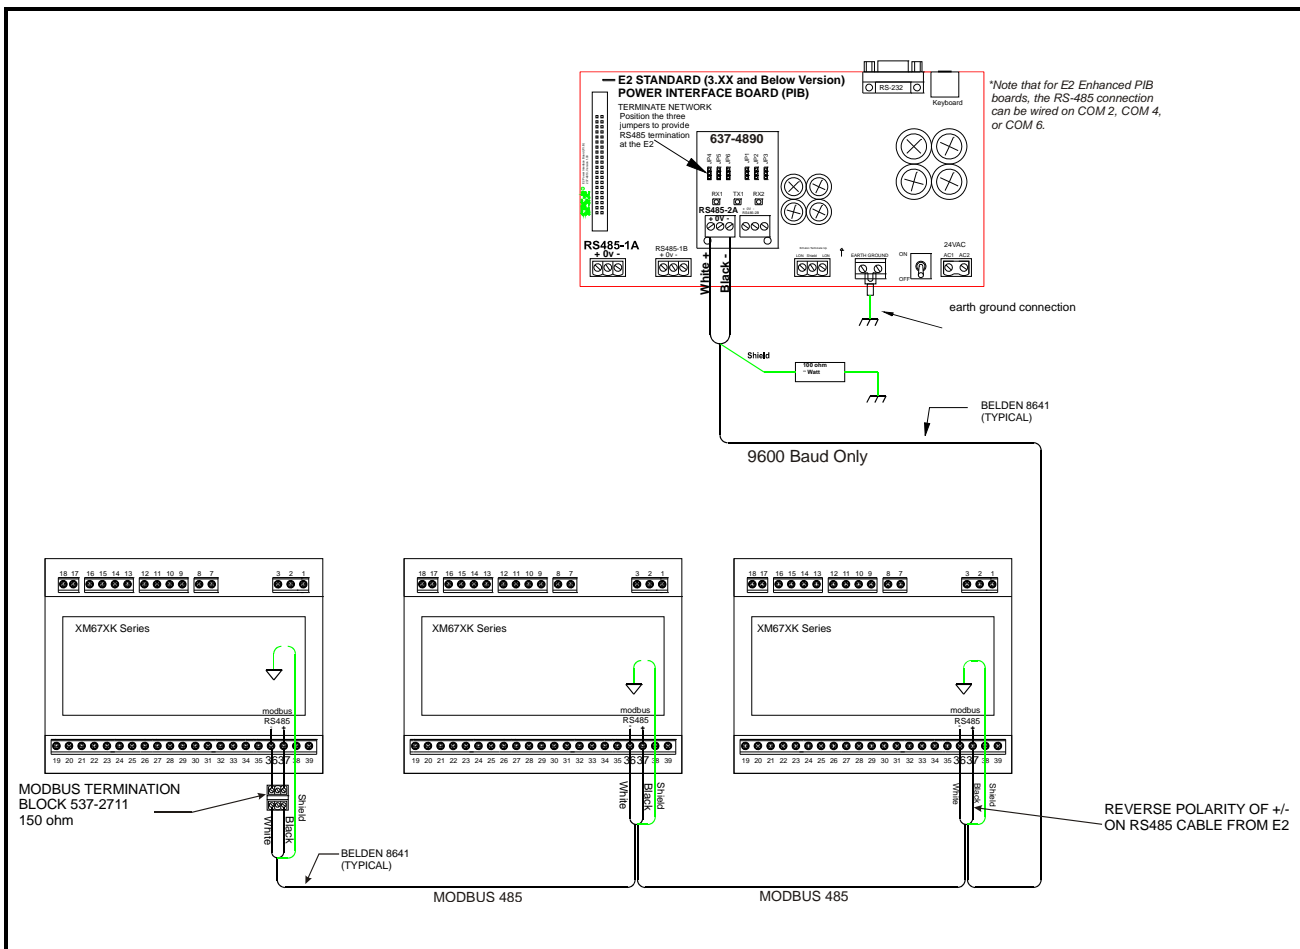

Figure 19-1 - XR670K - XR679K to E2 MODBUS Network Wiring
**NOTE:** If pressure is not being shared across the LAN, each XM679K will need its own Pressure Transducer. Please reference Figure 19-1 and Figure 20-1 wiring diagrams.